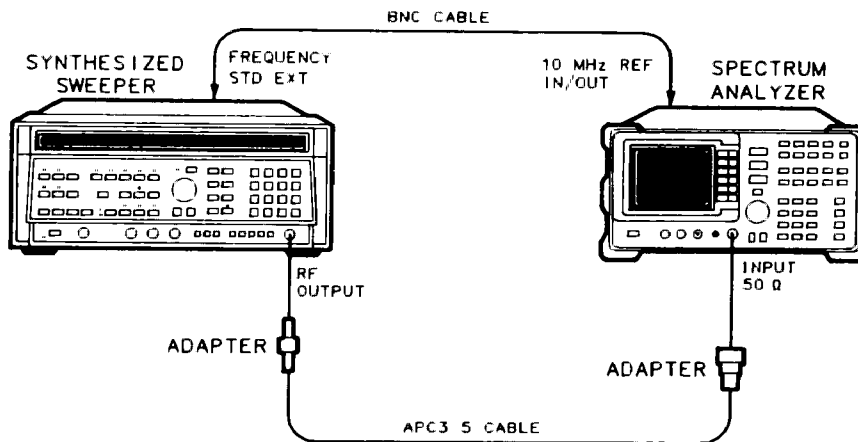

Figure 3-12. Frequency Readout and Frequency Count Marker Accuracy Test Setup
1. Connect the equipment as shown in Figure 3-12. The spectrum analyzer provides the frequency reference for the synthesized sweeper.